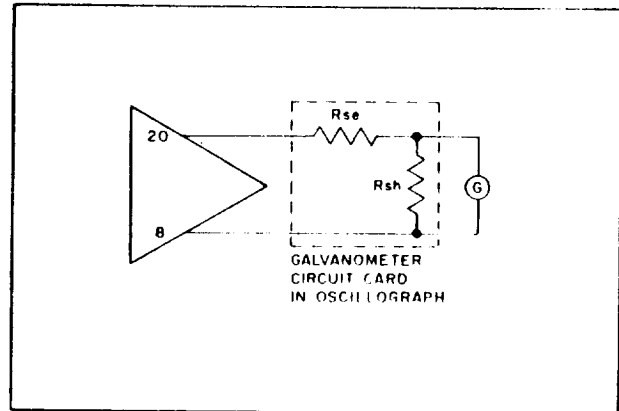

Figure 2-6. Galvanometer Connection
- A. ELECTROMAGNETICALLY DAMPED GALVANOMETERS. Each Honeywell M-Series electromagnetically damped galvanometer must be matched to its critical damping resistance  $R_D$  to obtain the best compromise between overshoot and frequency response. Proper damping reduces overshoot to a minimum while providing the best flat frequency response. Matching the Accudata 104 output to these galvanometers requires the addition of a series and shunt resistor between the output and galvanometer as shown in Figure 2-6.